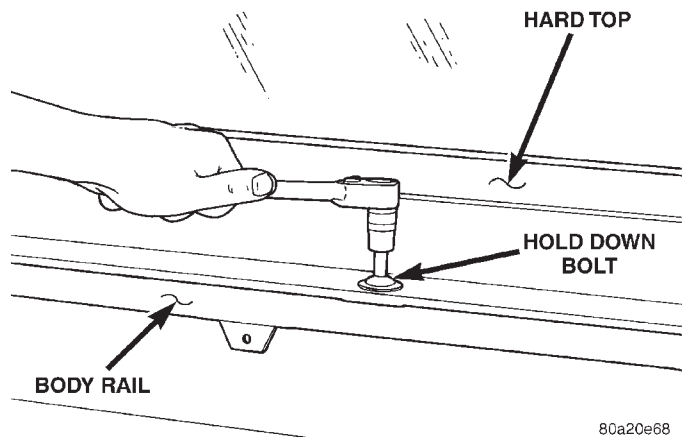

Fig. 44 Hard Top Removal
- (2) Remove the bolts that attach the hard top to the body (Fig. 44).